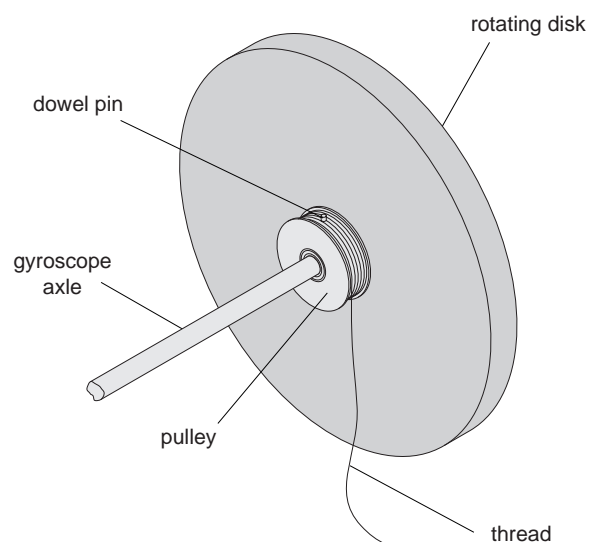

Figure 3: Using the Rotating Disk Pulley
- ① Make sure the rotating disk is secure on the gyroscope axle and decide which direction you want the disk to rotate.
- ② Tie a loop in the end of a length of thread (approximately 1.5 meters long) and put the loop around the dowel pin located on the surface of the rotating disk pulley and wind the thread around the surface of the pulley. See Figure 3.
- ③ Holding the gyroscope axle in place, pull the thread to rotate the disk at the desired speed.